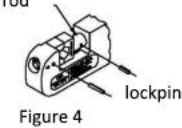

Figure 4
- (1). Install the die on the crimp tool handle.
- (2). After installing the die, force the locking pin into the hole and keep it flush. The long locking pin is inserted into the tool frame and the short locking pin is inserted into the push rod (see Figure 4).
Before attempting to remove the molds from the tools, make sure that all the locking pins have been removed (See Figure 4). Otherwise, the tool may be seriously damaged.